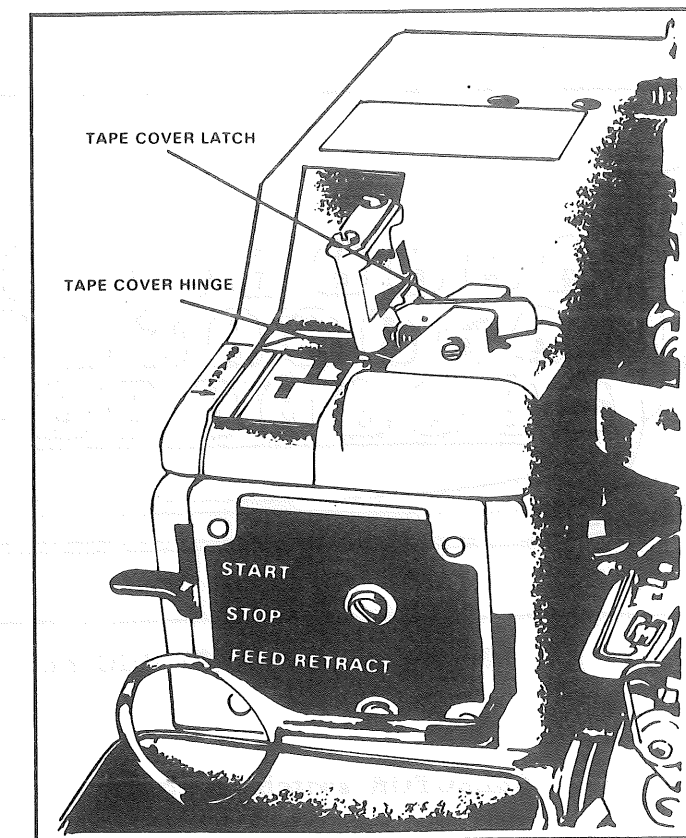

Figure 3. Transmitter-distributor, tape cover lubrication points.
- f. Tear off perforated tape of R's and Y's and position it on the Transmitter Distributor (fig 3).